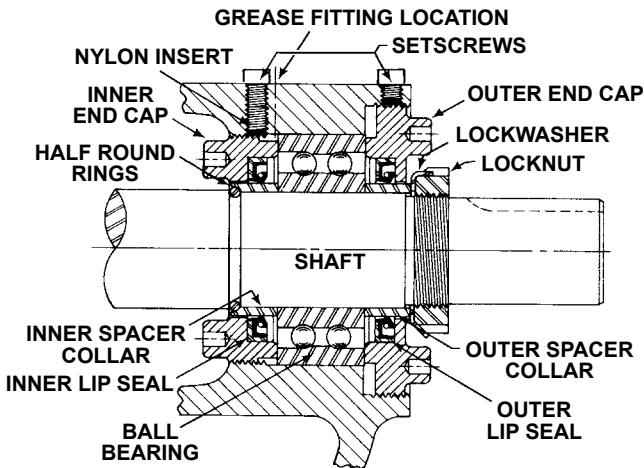

FIGURE 15
NOTE: First replace the snap ring ("HL" size) or half round rings ("K" - "LL" size) if furnished see figure 15.
NOTE: The end cap must not be turned so far that the lip of the seal drops off the end of the spacer collar on the shaft or the end cap becomes disengaged with the threads, **see figure 15.**
- Install the lip seal (lip toward end of shaft) and bearing spacer in the outer end cap and turn the end cap to the bracket until tight against the bearing, **see figure 15.**
- Put lockwasher and locknut on shaft. Insert length of hardwood or brass through port opening between rotor teeth to keep shaft from turning. Tighten locknut to 50-70 ft.- lbs. Torque (HL) or 100-130 ft. - lbs. Torque (K - LL).